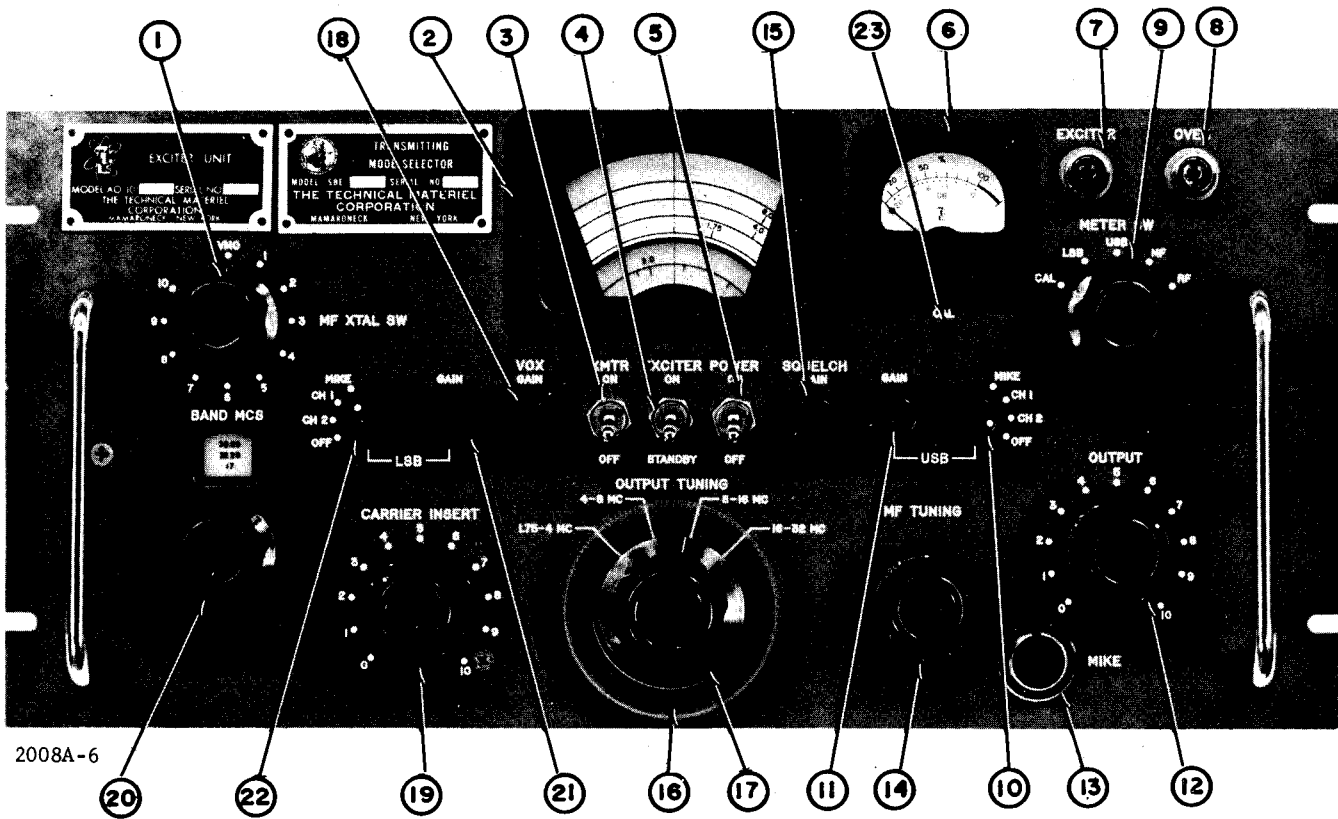
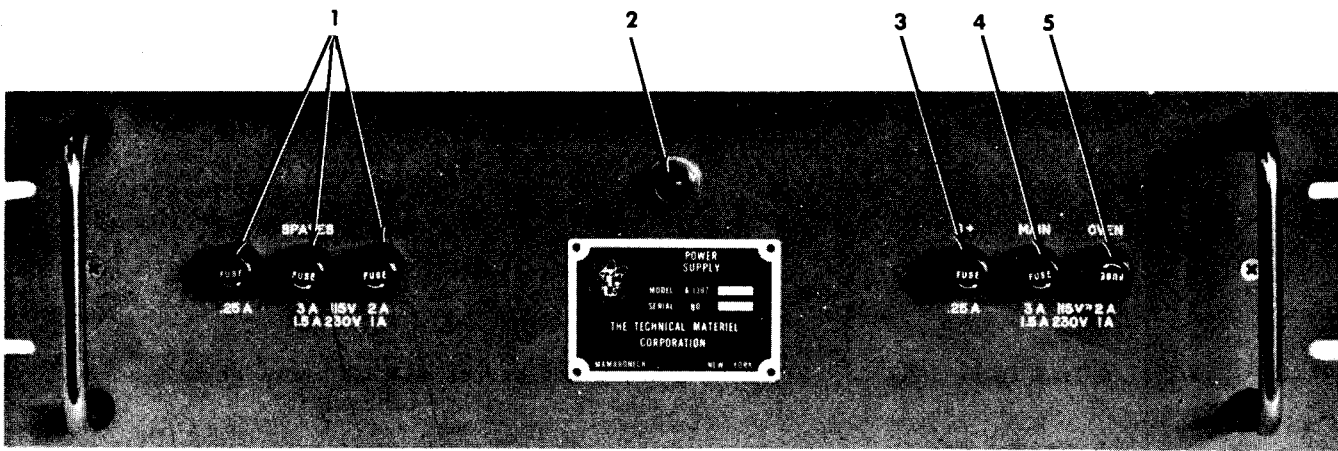

Figure 3-1. Operating Controls, SBE
Figure 3-2. Front Panel, Power Supply, SBE
(see figure 3-1); the protective fuses are located on the front panel of the power supply (see figure 3-2). The operating controls are listed in table 3-1; the protective fuses are listed in table 3-2.
The output frequency (f_o) desired requires the use of the proper medium frequency (f_{mf}) whether supplied by an external VMO or a crystal. If the desired output frequency (f_o) is between 4.25 and 32.25 mc, adjust the BAND MCS switch (20, figure 3-1) to the frequency range containing the output frequency desired. Located below the desired frequency range on the BAND MCS dial is a number hereafter referred to as the Dial Numeric. This Dial Numeric is used to compute the crystal or VMO frequency (f_x).
The MF dial, moving in conjunction with the MF TUNING control (item 14, figure 3-1) is calibrated to read 250 mc above the actual MF frequency. Therefore, the MF dial reads the VMO or crystal MF injection frequency resulting in f_x - MF dial reading.